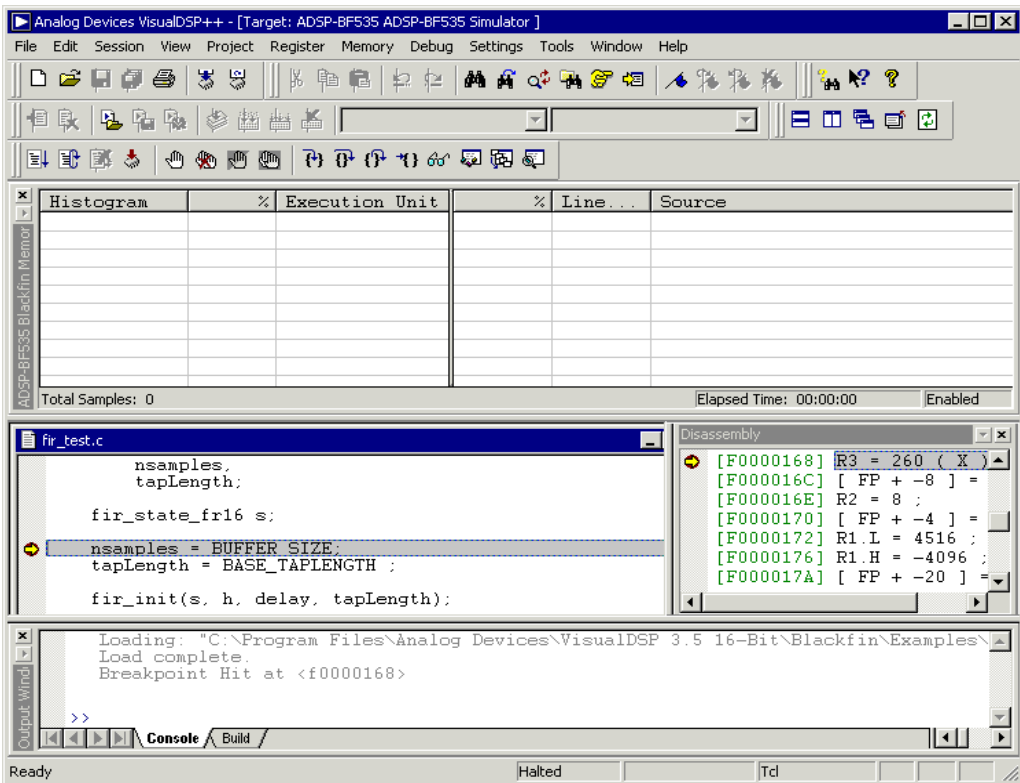

Figure 2-37. Linear Profiling Results Window (Empty)
If VisualDSP++ does not open an editor window (shown in Figure 2-37 on page 2-52), right-click in the **Disassembly** window and select **View Source**.
- For a better view of the data, use the window's title bar to drag and dock the window to the top of the VisualDSP++ main window, as shown in Figure 2-37.